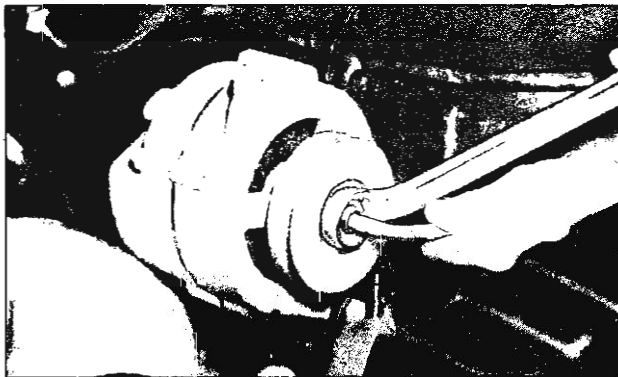

Fig. 24—Pulley Removal
1. Place box wrench on shaft nut and insert $\frac{5}{16}$ " allen wrench into opening at drive end of shaft (fig. 24).